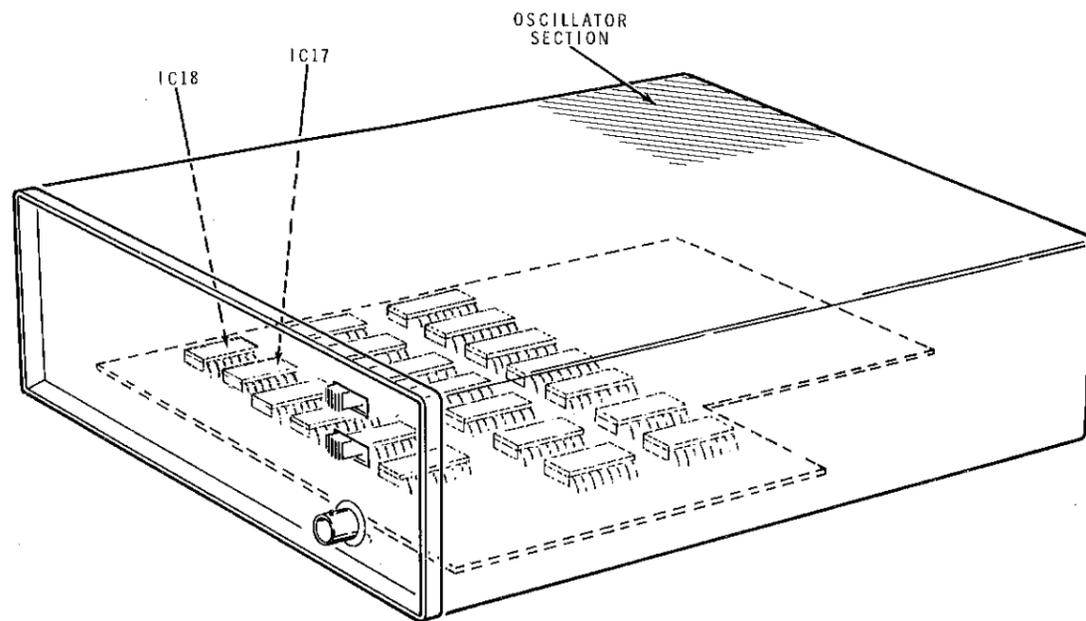

Figure 3-1
1. If you have a general coverage communications receiver, use its AM mode. For best accuracy, tune it to the highest WWV station frequency (25, 20, 15, 10, or 5 MHz) receivable at a satisfactory volume in your area. Temporarily connect an insulated, unshielded wire to the receiver antenna connection and lay the wire over the oscillator section of your Counter in the area shown in Figure 3-1.
2. Broadcast AM radios can be used by tuning in a station of medium volume and connecting a temporary additional antenna and laying it over the oscillator section of the Counter at the location shown in Figure 3-1. A portable AM broadcast radio can also be used by holding it so its antenna is close to the Counter oscillator section. If the tone of the Counter oscillator is not heard, remove the Counter cabinet shell and bring the temporary antenna wire close to IC17 and IC18, or hold the portable radio within about 2" of these IC's.